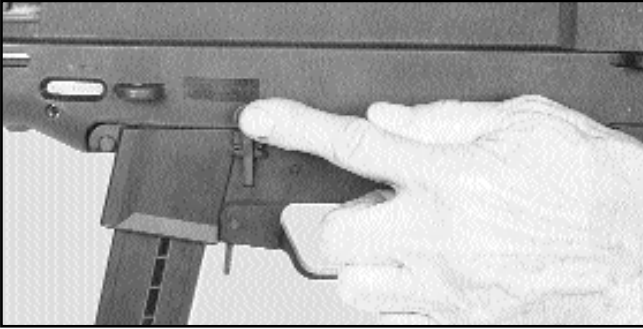

Fig. 25 Depress bolt catch to release the bolt
- Depress upper end of bolt catch (Fig. 25), thus releasing the bolt and allowing it to snap forwards.